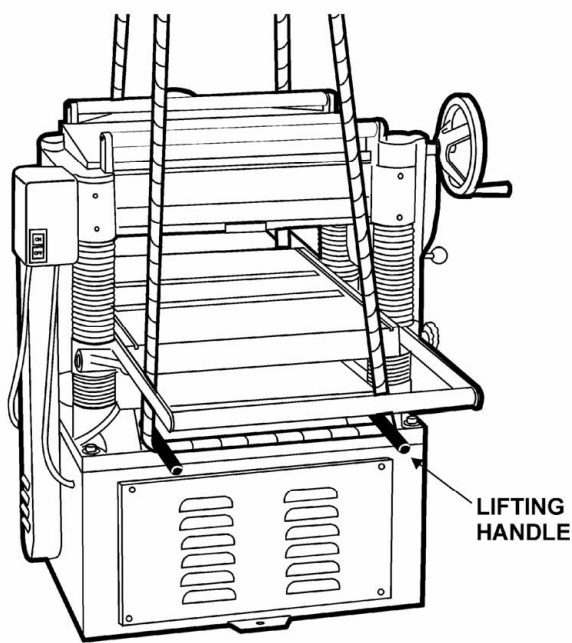

Figure 3
1. There are four lifting handles (Fig. 3) on the machine. Pull the handles out for use, push in when not in use.
2. If a sling or forklift is used to lift the machine, be sure to lift by the handles only. See Fig. 3. Make sure machine is kept in level position while lifting.